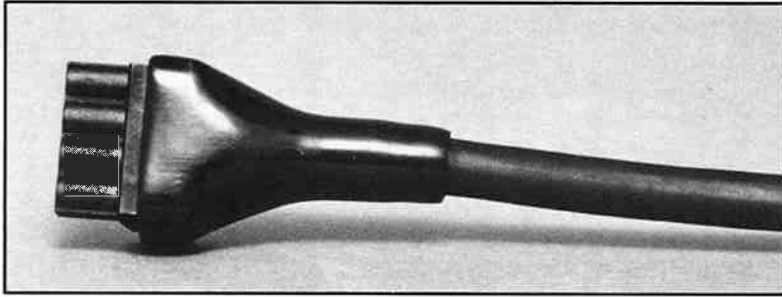

Figure 6. Assembled connector on a cable
- 6 Slide the cover over the connector until snug. This end of the cable will be connected to the Display/Power Supply (fig. 6).